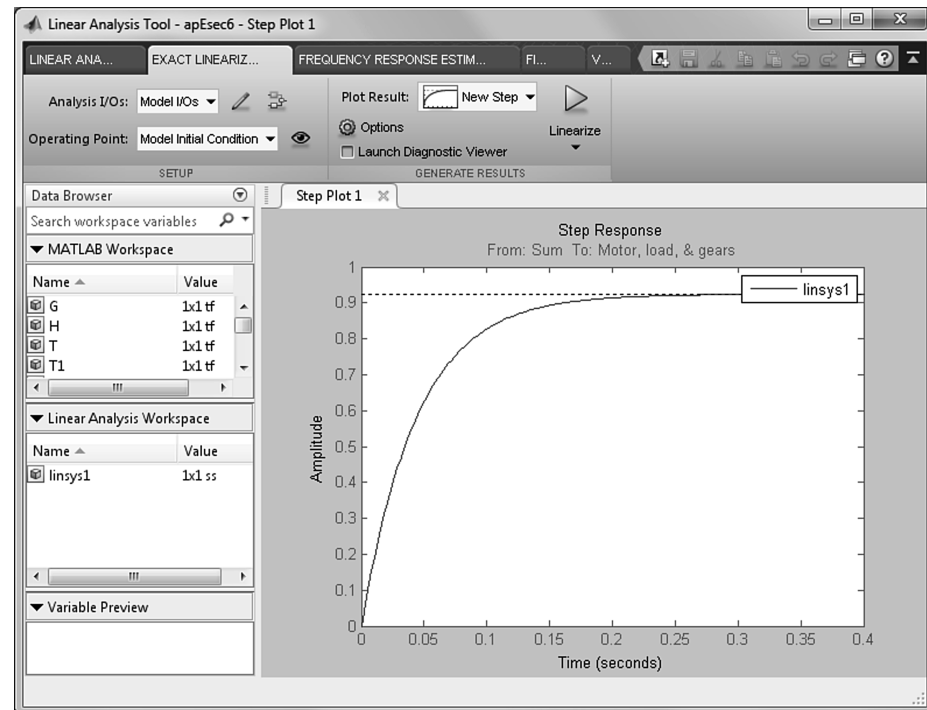

FIGURE E.9 Linear Analysis Tool window after linearization showing inserted LTI Viewer
4. **Launch the LTI Viewer** After linearization, the **LTI Viewer** is launched in the **Linear Analysis Tool** window as shown in Figure E.9. All of the **LTI Viewer** functions previously described are now available.